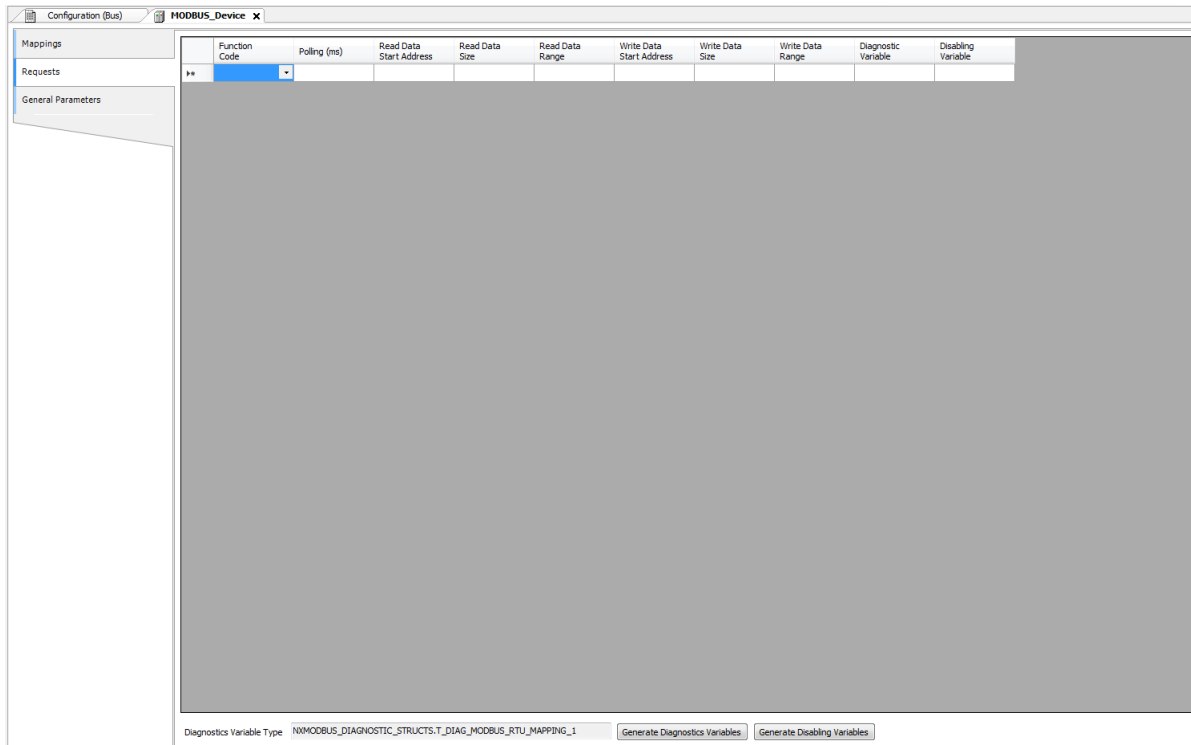

Figure 72: Data Requests Screen MODBUS Master
- Add and configure the MODBUS requests as presented in Figure 72, specifying the function, the scan time of the request, the starting address (read/write), the data size (read/write) and generate diagnostic variables and disabling the request via the buttons at the bottom of the window.